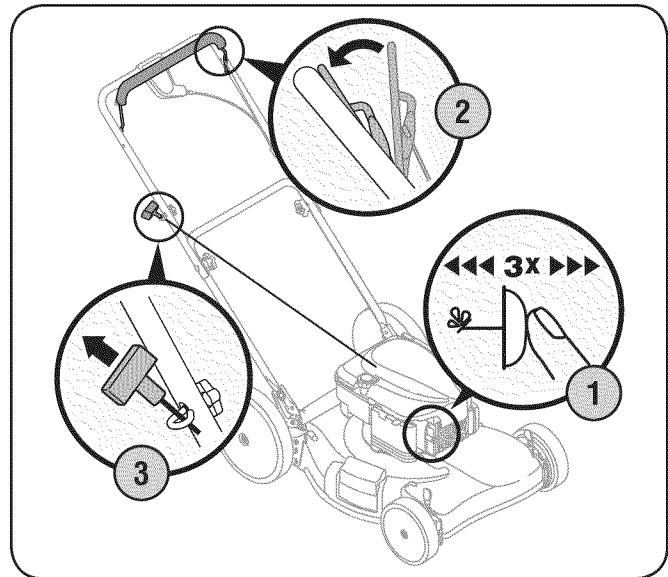

Figure 5-1
1. If equipped, push primer three times. Wait about two seconds between each push. See Fig. 5-1. In temperature around 55° F or below, prime five times. Do not prime to restart a warm engine.
3. Holding these two handles together firmly, grasp recoil starter handle and pull rope out with a rapid, continuous, full arm stroke. See Fig. 5-1. Keeping a firm grip on the starter handle, let the rope rewind slowly. Repeat until engine cranks. Let the rope rewind each time slowly.
2. Pull the recoil starter lightly until resistance is felt, then pull rapidly to overcome compression, prevent kickback, and start the engine. Repeat if necessary. See Fig. 5-1.